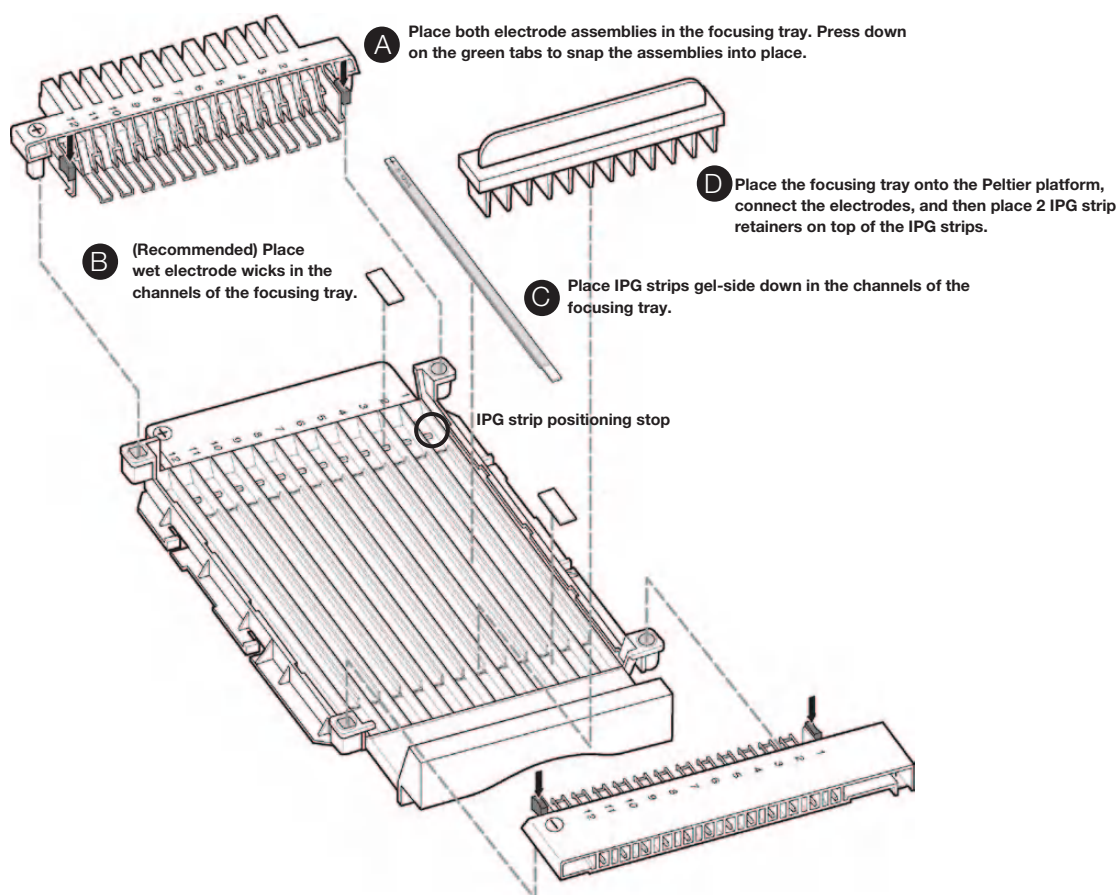

Fig. 2.4. Placement of an IPG strip gel-side down into the i12 focusing tray.
1. Position the electrode assemblies in the focusing tray and press down on the green tabs to snap the electrode assemblies into place (Figure 2.4, A; see Section 2.1.1, i12 Focusing Tray and Electrode Assemblies).
2. (Recommended) Wet the rectangular (gel-side down) wicks with distilled or deionized water and blot off excess water. Use two wicks per IPG strip: place a wick on top of each electrode (Figure 2.4, B).
3. Using forceps, place the rehydrated IPG strips gel-side down in the channels of the focusing tray (Figure 2.4, C). Position the positive (+) ends of the IPG strips against the positioning stops in each channel.
6. Place the IPG strip retainers on top of the IPG strips at both the positive and the negative ends (Figure 2.4, D). Without IPG strip retainers in place, gases formed during electrolysis may lift IPG strips off the electrodes, interrupting electrical contact.